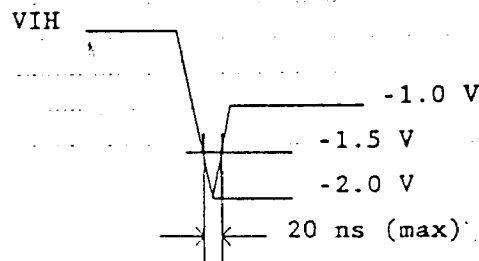

Figure 1 Undershoot of input voltage
2. The device will withstand undershoots to the -2 V level with a maximum pulse width of 20 ns at the -1.5 V level. (See Figure 1.)